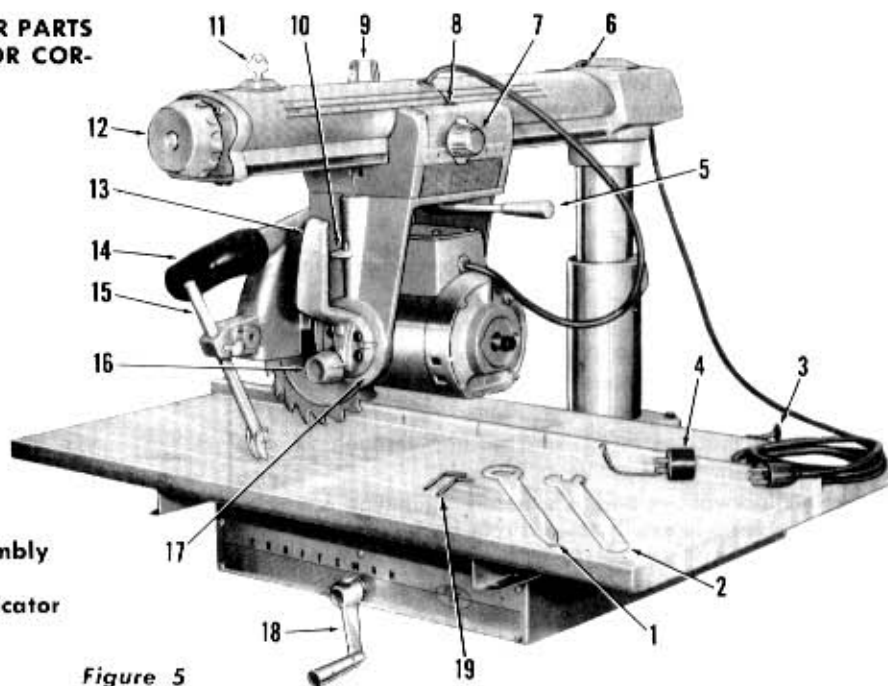
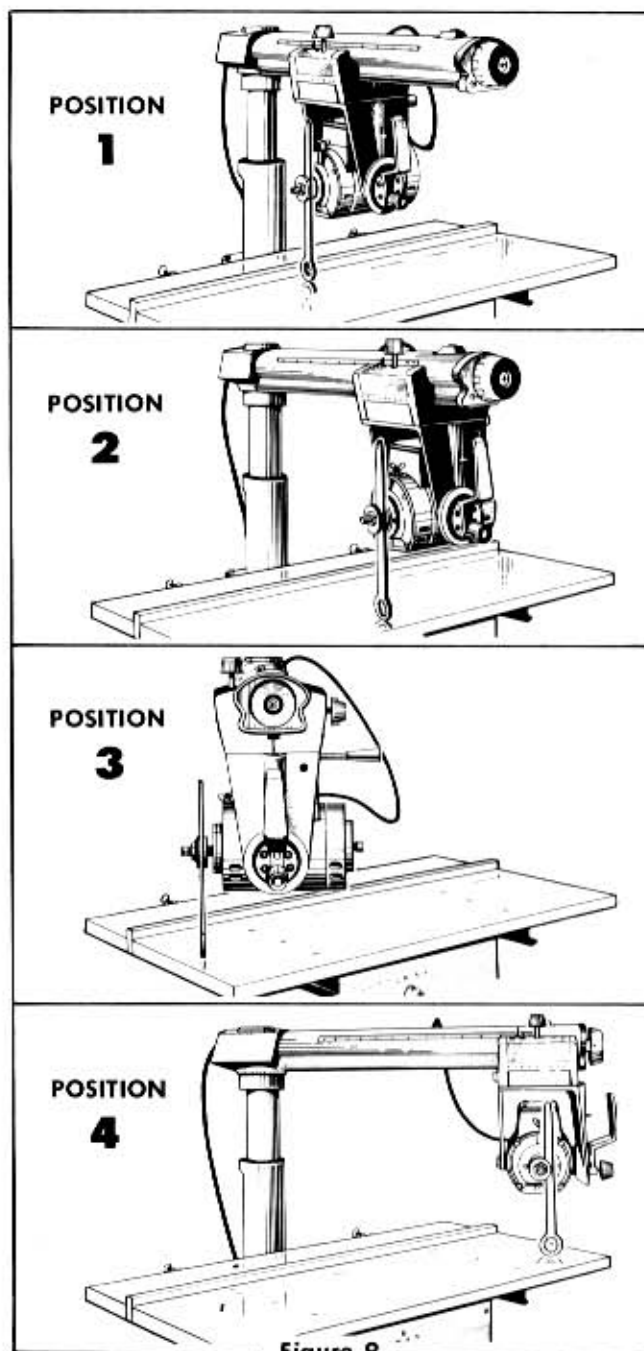

Figure 5
Figure 9
3. Insert arbor wrench between collars on motor shaft. See Figure 9. Tighten shaft nut by hand.
4. Loosen carriage lock knob (Item 7, figure 5) and turn elevation crank until end of arbor wrench just touches the table top thus permitting the wrench to be swung back and forth. See Position 1, Figure 9.
Do not turn the elevation crank throughout the remainder of this procedure as the radial arm must remain at the same height above the table while checking at Positions 1, 2, 3 and 4 of Figure 9.
6. Turn arm latch handle (Item 12, figure 5) counterclockwise and pull out. Move arm to Position 3 of Figure 9. Repeat procedure of step 5.
7. Move radial arm to Position 4 of Figure 9 and repeat above procedure.
3. When channels are properly adjusted the arbor wrench will just contact the table top when swung back and forth at Positions 1, 2, 3, and 4 of Figure 9. Tighten attaching screws (Item 1).
- If saw tooth "A" (Figure 15) moves away from the square when moving the blade from the rear to the front of the table, loosen the table bolts on the left side of the table and tighten the left table clamp (Item 3, figure 5).